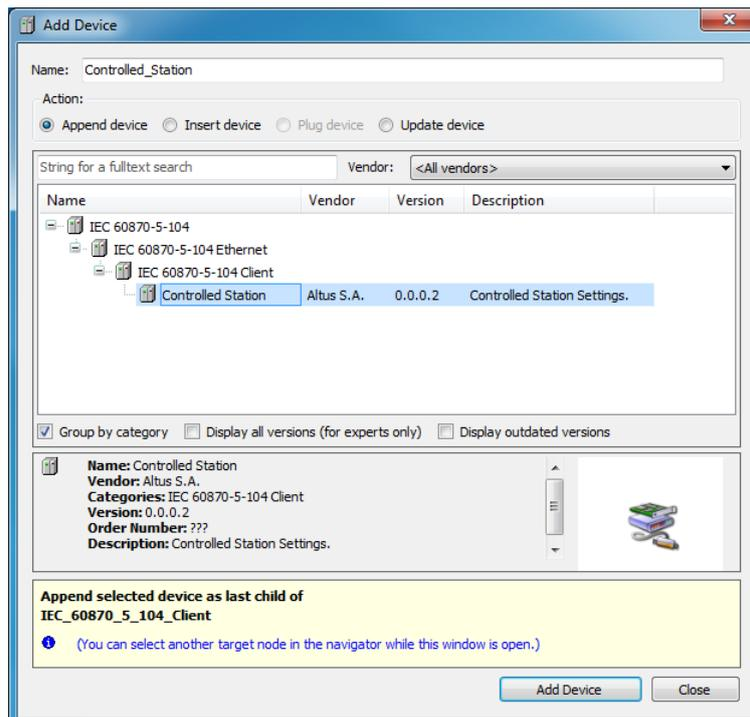

Figure 90: Insertion Screen of a Controlled Station Device below an IEC 60870-5-104 Client
3. Add and configure *Controlled Station* devices below the IEC 60870-5-104 Client instance, as shown in the figure 90. There is a maximum limit of 32 Controlled Stations under each instance of the IEC 60870-5-104 Client.